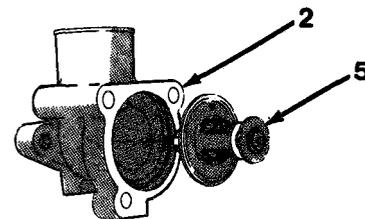

Figure 9-2
7. Remove thermostat (5) from thermostat housing (2, Figure 9-2).